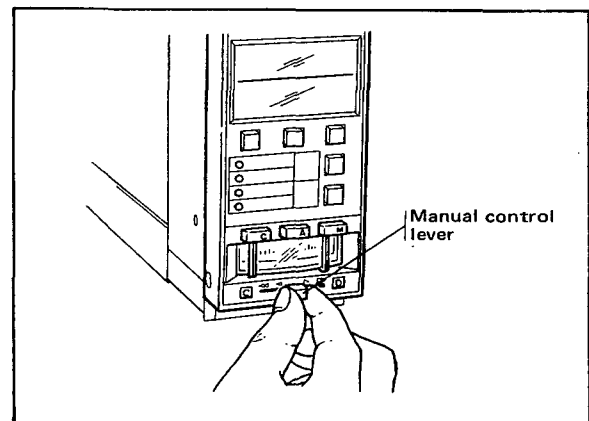

Figure 5-4-5. Manual Output Control.
- (2) Move the manual control lever to left (or right) to adjust the output signal. (Figure 5-4-5).